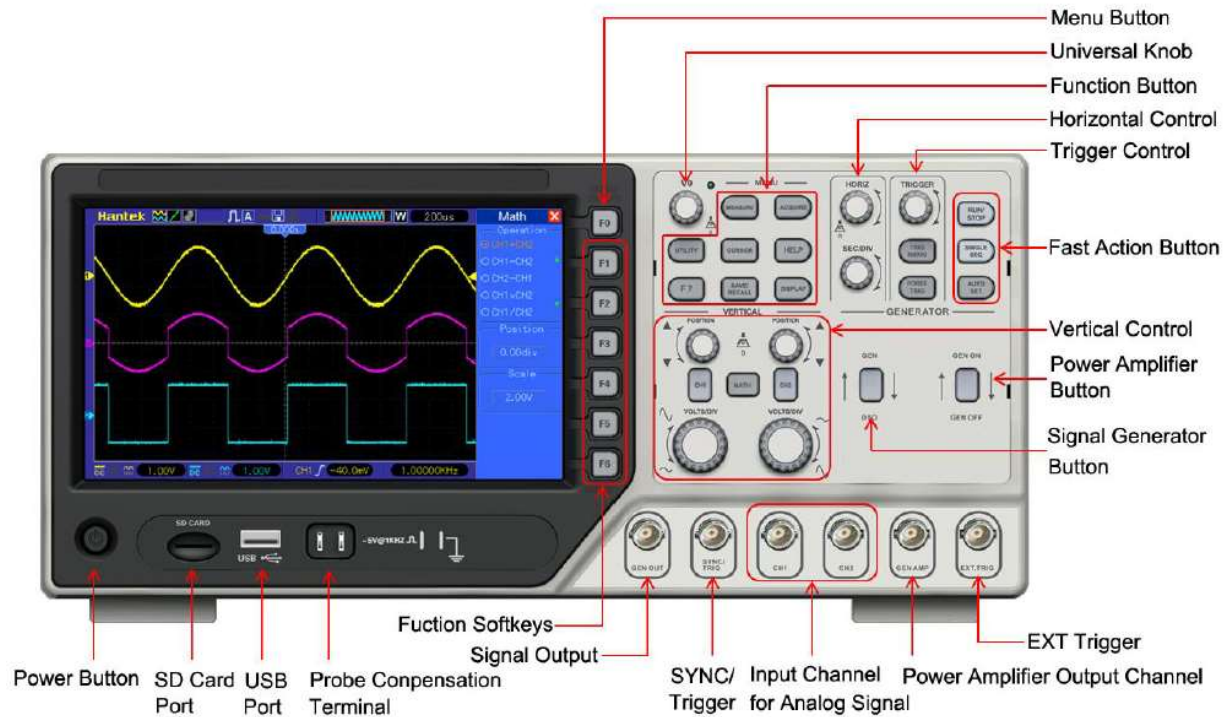

Figure 1 - Hantek DSO4102C Oscilloscope
For all the steps below, refer to Figure 1 for the location of configuration knobs, buttons or soft-keys and Figure 2 for the indicators on the Readout Display. Please spend a few moments familiarizing yourself with the configuration/functional groups in Figure 1 and on your oscilloscope.
2. Once the oscilloscope has gone through self-configuration, enable channel one only by pressing the “CH1” button in the “Vertical Control” group (See Figure 1).
3. Connect one probe to the channel 1 analog input by inserting and then twisting the probe’s BNC connector onto “CH1” BNC connector on the scope in. (“CH1” BNC connector can be found in the “Input Channel for Analog Signal” group shown in Figure 1.)
Oscilloscopes normally provide a simple “Probe Compensation Terminal” (see Figure 1) which provides a test signal. For today’s project, we will use this terminal to simply display a “time varying” signal on the probe.
Once again, for all the steps below, refer to Figure 1 for the location of configuration knobs, buttons or soft-keys and Figure 2 for the indicators on the Readout Display.
1. Connect the BNC cable included with your oscilloscope to the “GEN AMP” connector (“Power Amplifier Output Channel” in Figure 1) on the scope.
2. Turn on the waveform generator by pressing the “GEN ON” button (“Power Amplifier Button” in Figure 1).
3. Press “F1” button (in the “Menu Button” group in Figure 1) to select “Sine”. This will configure the waveform generator to output a sinusoidal signal.
- a. Set “SEC/DIV” (in the “Horizontal Control” group in Figure 1) to 200 μ s.
- b. Make sure the horizontal trigger point is centered on the horizontal axis by pressing the “HORIZ” knob (in the “Horizontal Control” group in Figure 1).
7. Connect the other end of the BNC cable to the BNC connector for “CH1” (in the “Input Channel for Analog Signal” Figure 1)
- b. Press the “F2” button (in the “Menu Button” group in Figure 1) to select “Square”.